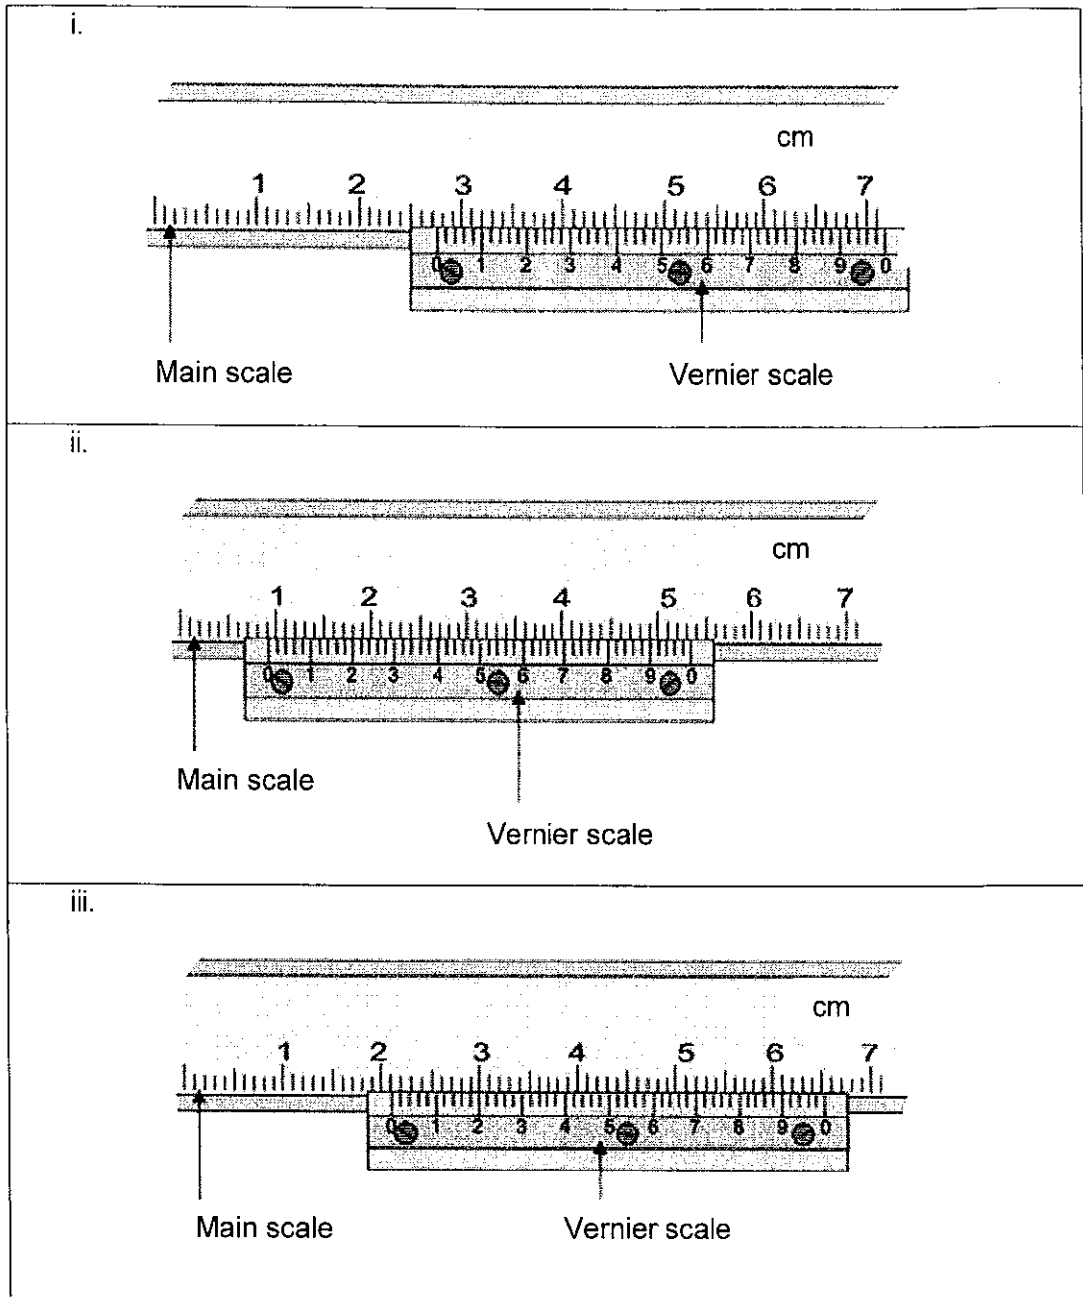

Figure 2: Vernier Caliper.
- (d) Determine the measurement reading by using Vernier Caliper with measuring resolution of 0.02 mm as illustrated in Figure 2. Express your answer in millimeters (mm) and meters (m).